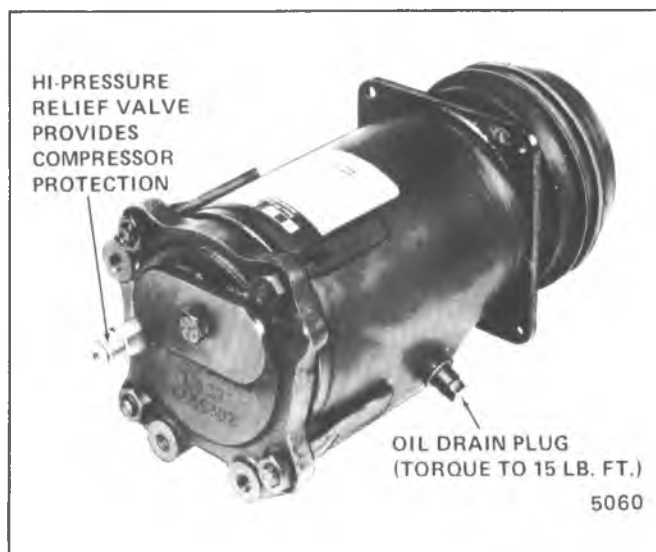

Figure 1D-1 A-6 Compressor
When servicing the compressor, remove only the necessary components that preliminary diagnosis indicates are in need of service. Refer to the **AIR CONDITIONING** section and Figure 1D-2 and Figure 1D-3 for information relative to parts nomenclature and location.
Removal and illustration of external compressor components and disassembly and assembly of internal components must be performed on a clean workbench. **The work area, tools, and parts must be kept clean at all times.** Parts Tray J-9402 (Figure 1D-38) should be used for all A-6 internal compressor parts being removed, as well as for replacement parts.
2. Keep clutch hub from turning with Clutch Hub Holder J-25030 or J-9403, and remove locknut from end of shaft using Thin Wall Socket J-9399 (Figure 1D-4).
3. Thread Clutch Plate and Hub assembly Remover J-9401 into hub. Hold body of Remover with a wrench and tighten center screw to remove Clutch Plate and Hub assembly (Figure 1D-5).